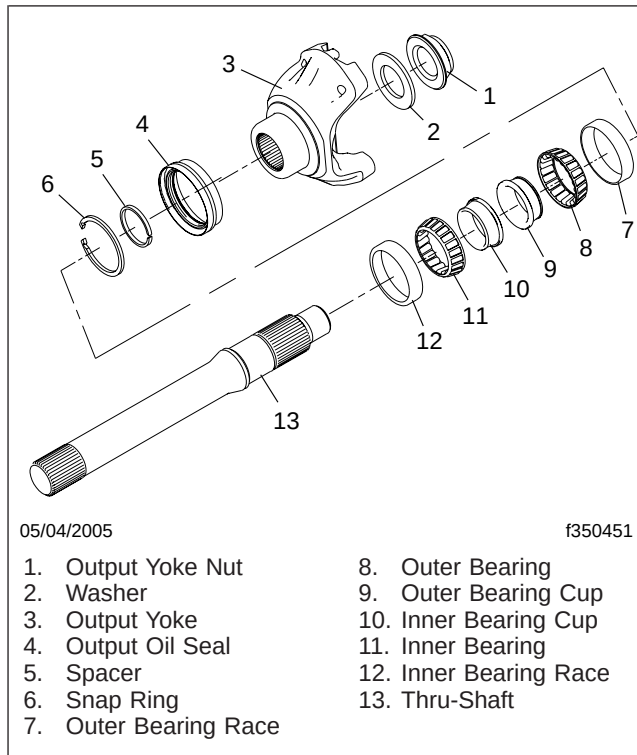

Fig. 1, Thru-Shaft Components
3. Remove the snap ring and spacer from the thru-shaft. See Fig. 1.